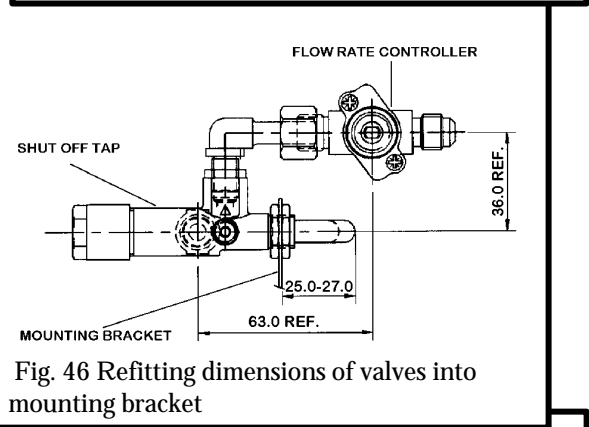

Fig. 46 Refitting dimensions of valves into mounting bracket
- 13.9.8** If fitting a new tap, remove the hexagonal nut at the mounting bracket end of the old tap and fit to the replacement tap. Refit in the reverse order - **NOTE** - prior to refitting the elbow to the shut-off tap, apply an approved sealant to the elbow thread. Refer to figure 46 to ensure accurate refitting dimensions of the valves and subsequently into the mounting bracket. When refitting, make sure that the tap spindle is in the correct relationship relative to the control pivot bracket. Rotate the pivot bracket fully clockwise. The tap spindle should "bottom out" (i.e. the tap should be fully open) after the pivot bracket has actuated the ignition microswitch but before it has pushed the microswitch leaf against the microswitch body.